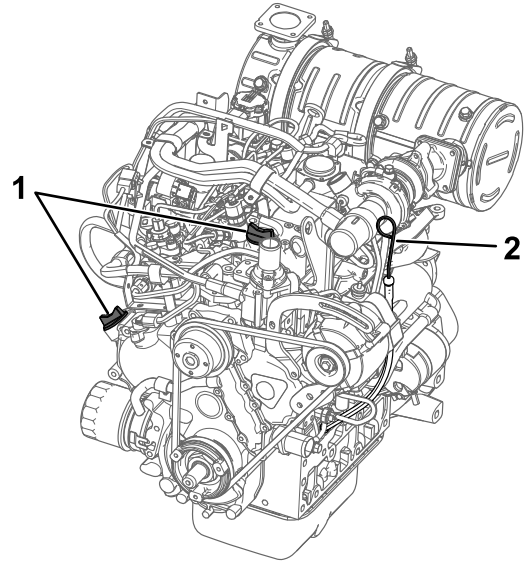

Figure 50
4. Clean the area around the oil dipstick and oil-fill cap (Figure 50).